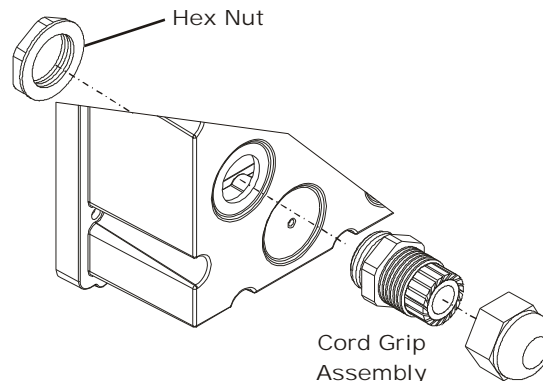

FIG. 85: INSTALLING THE HEX NUT ONTO THE CORD GRIP ASSEMBLY
- Slide the Cord Grip Assembly into the hole in the rear cover. (See Fig. 85)